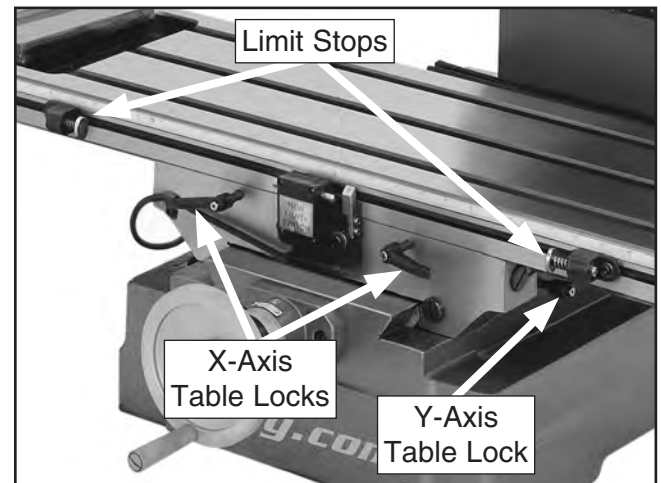

Figure 20. Table locks and limit stops.
1. Loosen the two X-axis table locks shown in **Figure 20**.
The saddle does not have limit stops. To move the table along the Y-axis, loosen the Y-axis table lock shown in **Figure 20**, then use the handwheel in front of the table in the same manner as the X-axis handwheel.